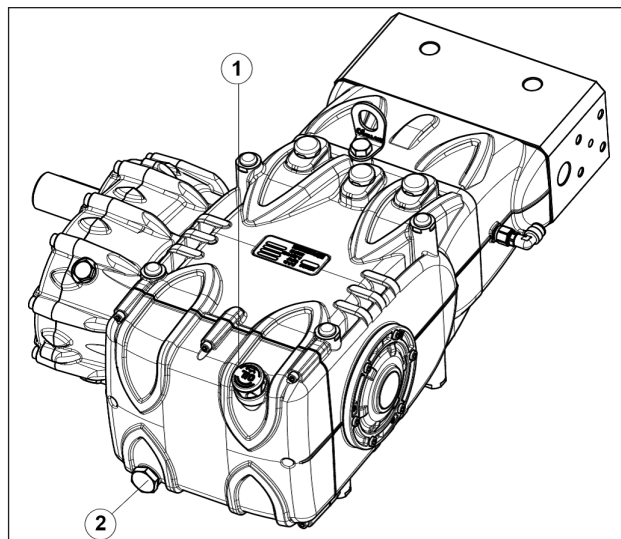

Fig. 3
Check the oil level, refill if necessary from the oil dipstick pos. ①, Fig. 3.
The correct checking of the oil level is made with the pump not running, at room temperature. The oil change must be made with the pump at working temperature, removing the plug pos. ②, Fig. 3.
Use a temperature probe to be inserted into the oil drain plug pos.(2) fig.3. See "ATEX EXPLOSION PROTECTION" manual.